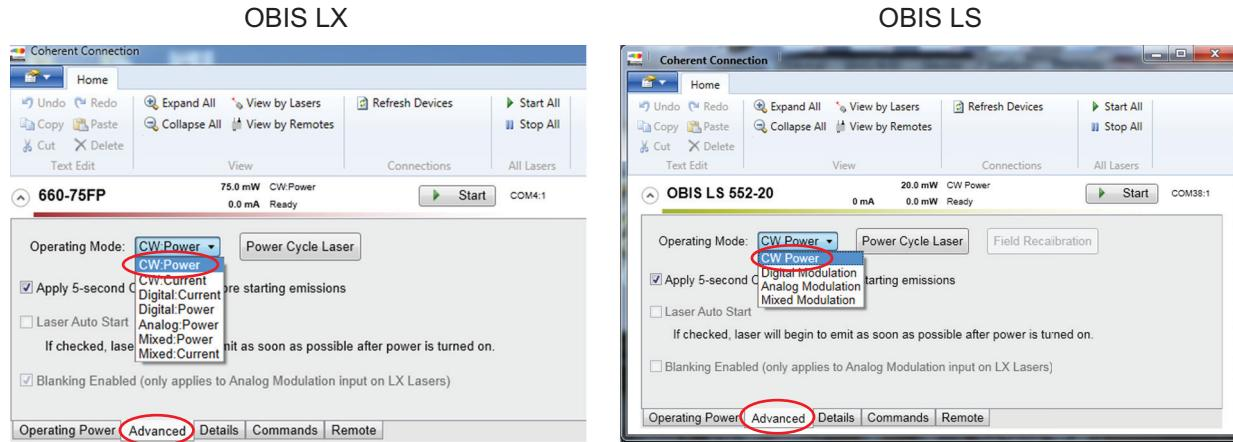

Figure 6-2. Select Operating Mode
3. Select the operating mode for OBIS LX and LS lasers from the Advanced tab in the Coherent Connection user interface. Figure 6-2 shows the menu options for both the OBIS LX and the OBIS LS lasers.